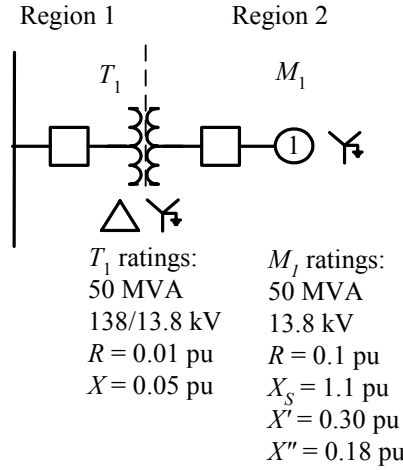

Figure P12-3 One-line diagram of the power system in Problem 12-8.
- 12-8.** Assume that a symmetrical three-phase fault occurs at the terminals of motor M_1 on the low-voltage side of transformer T_1 in the power system shown in Figure P12-3. Make the assumption that the power system is operating at rated voltage, and that it is initially unloaded. Calculate the subtransient, transient, and steady-state fault current on the high-voltage side of the transformer, the low-voltage side of the transformer, and in the motor.